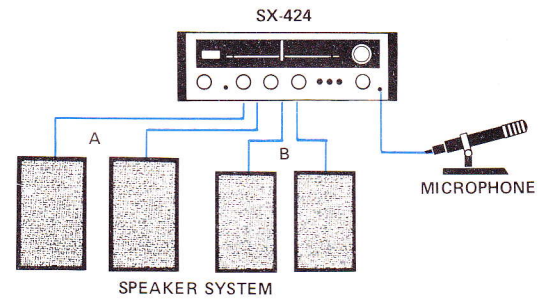

Fig. 9
1. Plug the microphone into the MIC jack (Fig. 9).